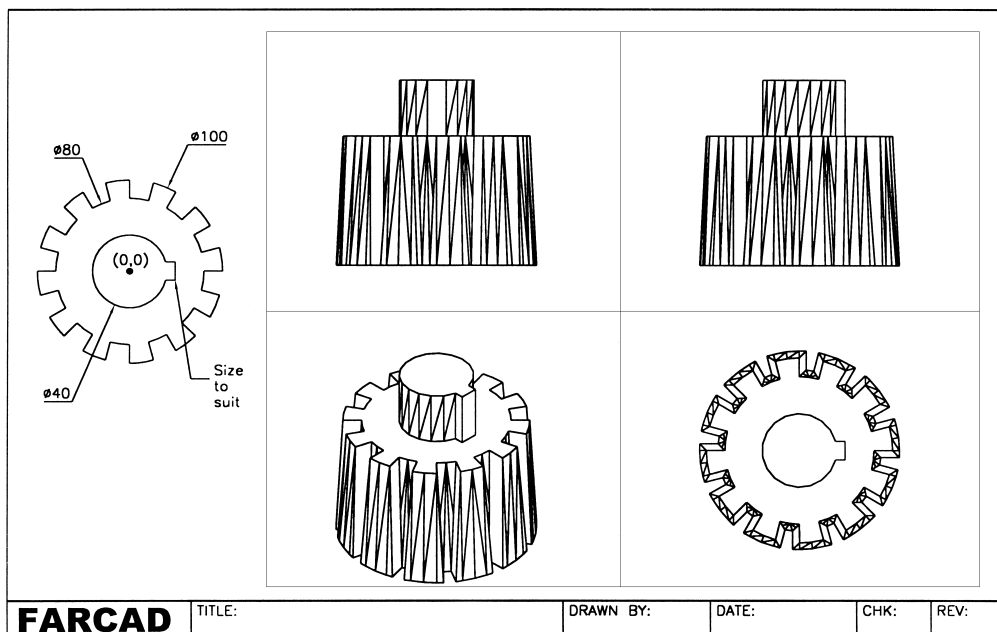

Figure 29.2 Extruded example 2 – splined shaft.
- 3 Refer to Fig. 29.2 and create two profiles: